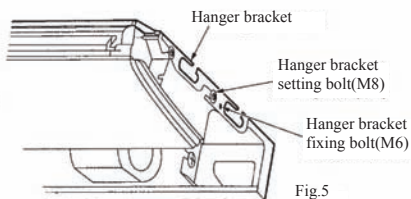

Fig.5
* Loosen two hanger bracket setting bolts (M8) on each side for less than 10mm. Remove two hanger bracket fixing bolts (M6) on the rear side. Detach the hanger bracket by pulling it backward (Refer to Fig.5).
f. Screw tightly both hanger bracket-setting bolts (M8). (Refer to Fig.5)
g. Screw tightly both hanger bracket-fixing bolts (M6) to prevent the movement of the indoor unit. (Refer to Fig.5)